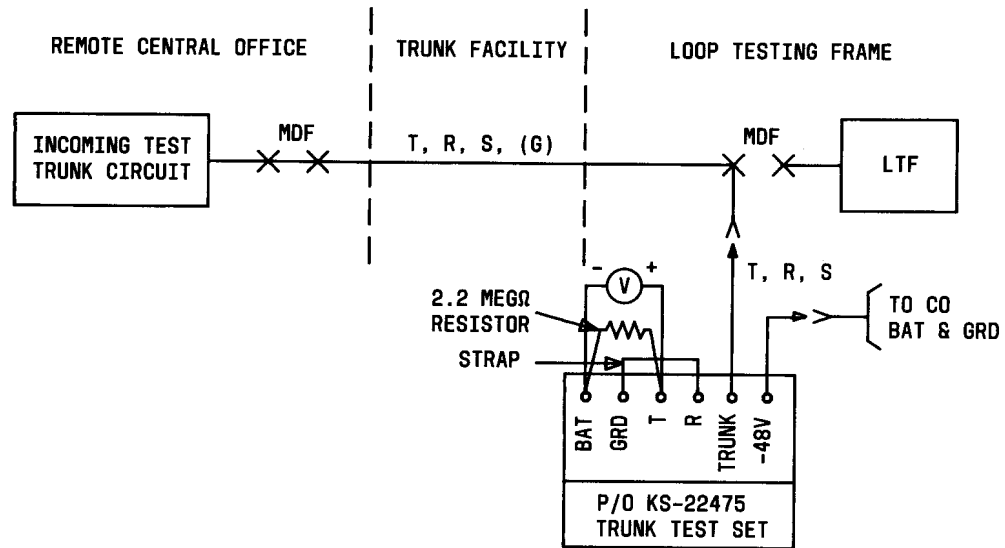

Fig. 7—DC Tip Isolation—Connections
C. DC Isolation (all test trunks) (Fig. 7 and 8).
4	Connect a 2.2 megohm resistor between the T and BAT terminals (see Fig. 7).
5	Strap the R terminal to the GRD terminal (see Fig. 7).